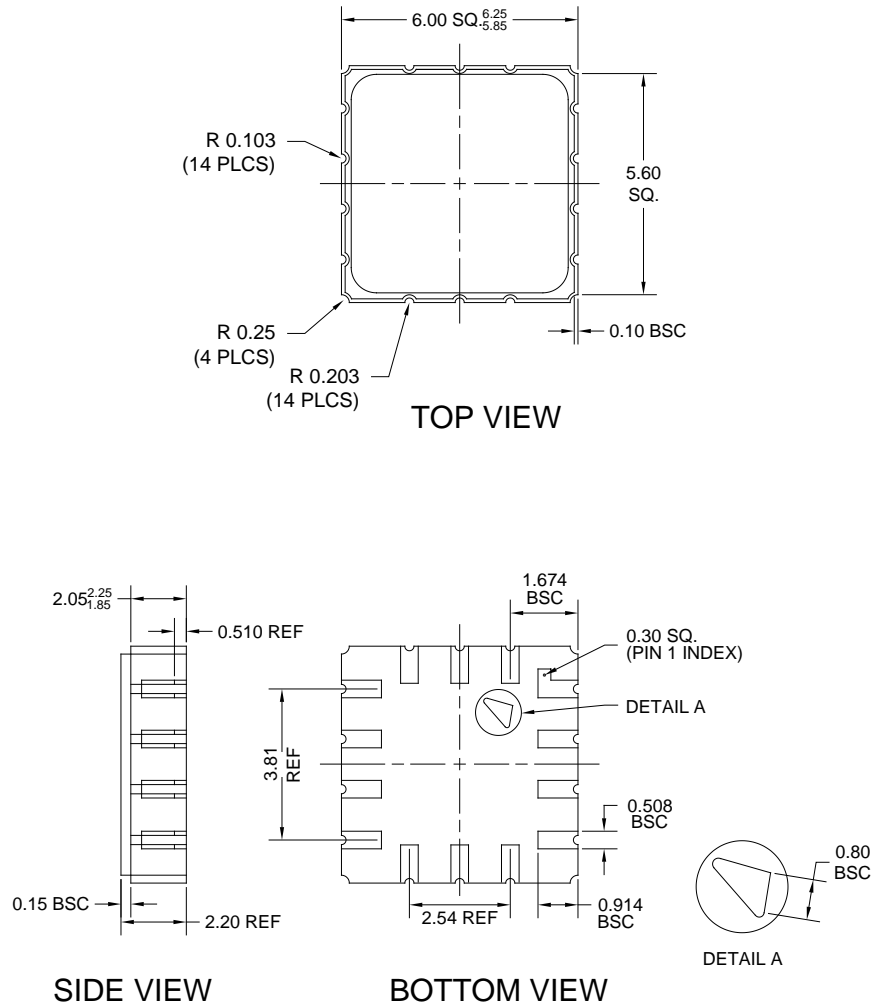

FIGURE 1. Case outline.
3.5.1 Case outline. The case outline shall be as shown in 1.2.2 and figure 1.